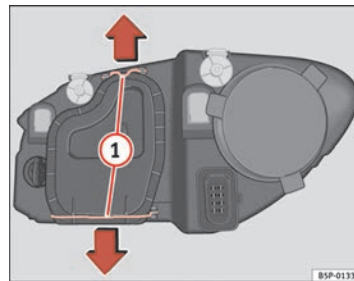

Fig. 165 Dipped beam headlights
- Remove the loops ⇒ page 261, fig. 165 ① in the direction of the arrow and remove the cover.